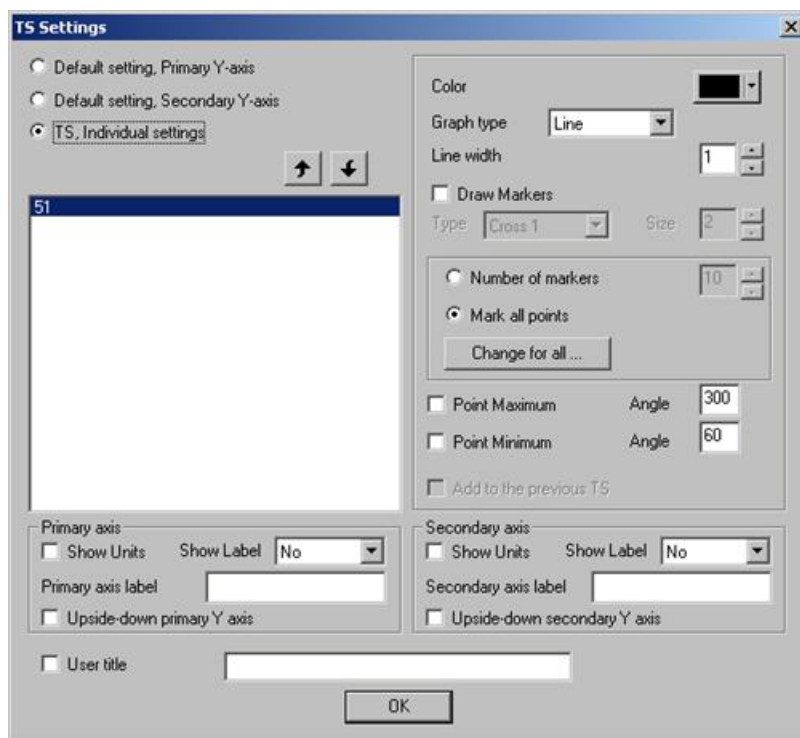

Figure 5.6 TS Settings
- TS Settings (controls various TS settings, see Figure 5.6)